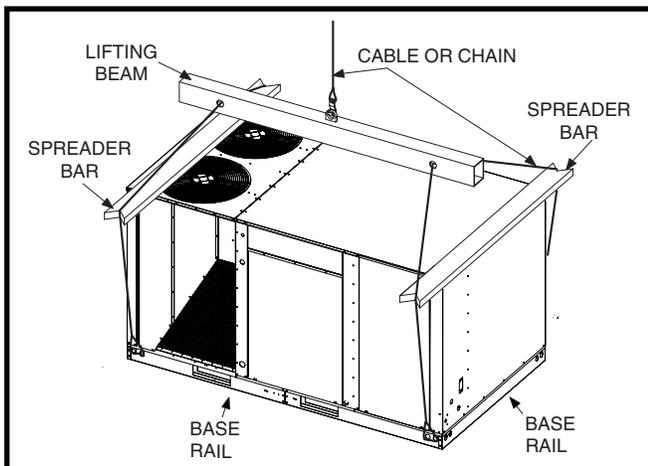

Figure 5. Rigging & Hoisting
- The unit must be lifted from the holes in the base rails using cables or chains as shown in Figure 5.
- Spreader bars (Figure 5) are required to protect the unit and ensure even loading.